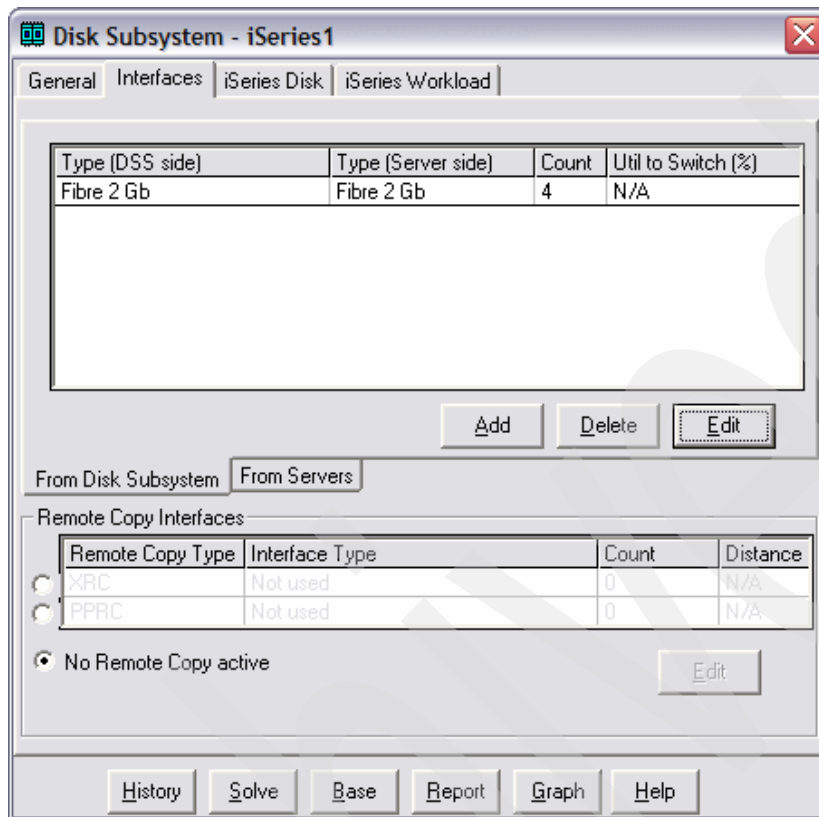
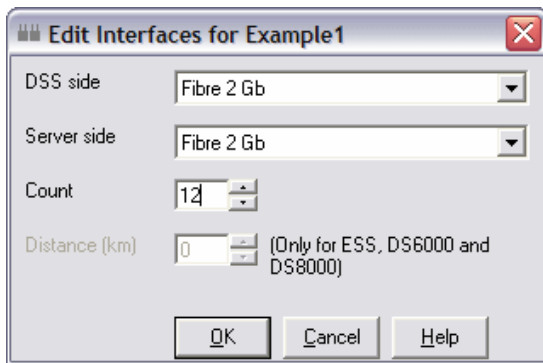

Figure 4-32 Specifying the DS host ports: Interfaces tab
Figure 4-34 Inserting the System i5 FC adapters
- c. Next, in the Disk Subsystem - iSeries1 window, select the Interfaces tab, as shown in Figure 4-32. On the Interfaces tab, under the From Disk Subsystem tab, click the **Edit** button.
- e. Back on the Interfaces tab (Figure 4-32), select the From Servers tab, and click **Edit**. In the Edit Interfaces window (Figure 4-34), enter the number of planned System i5 FC adapters. Click **OK**.